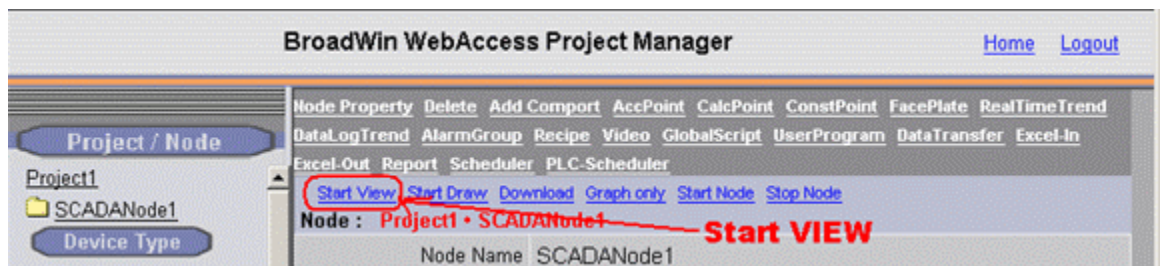

Figure 4.37- Start VIEW from Project Manger
8. Select Start View (Figure 4-37).